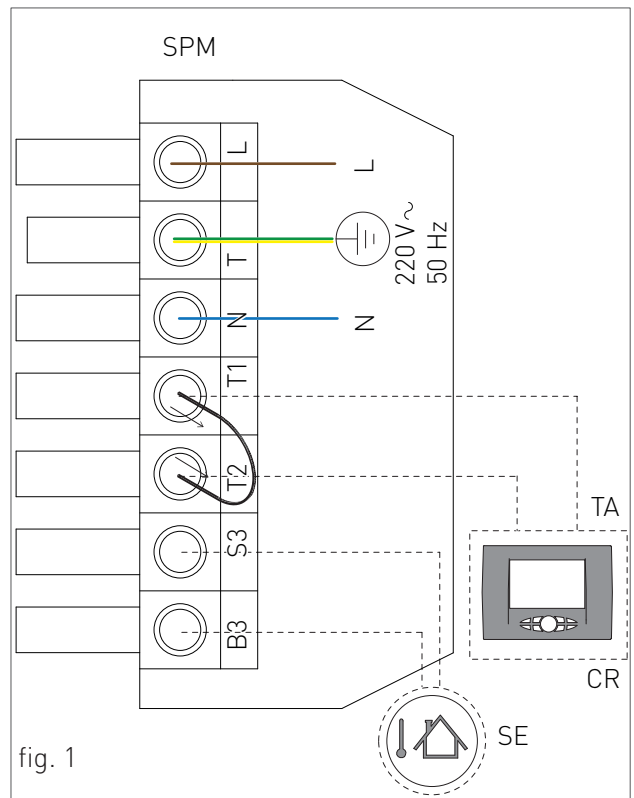

fig. 1
- > disconnect the "SPM" male Plug and make the connections (see fig. 1):